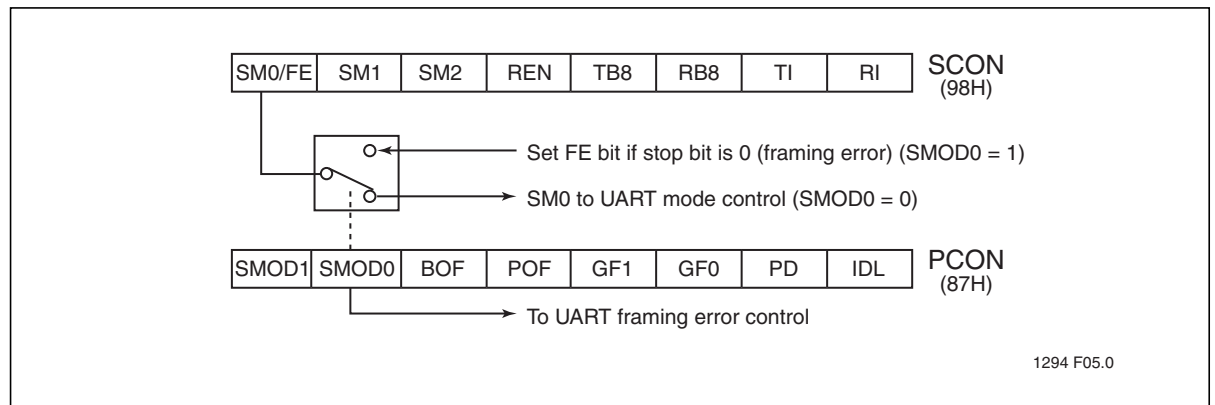
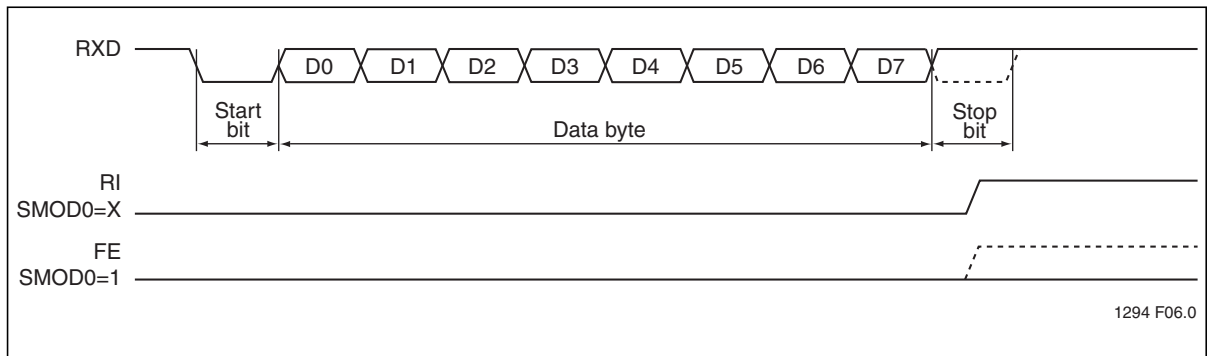
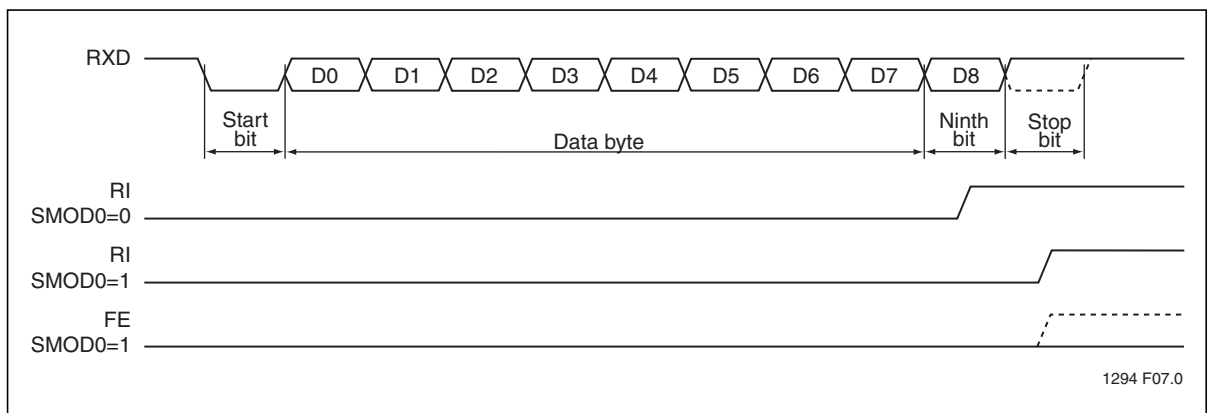

Figure 10:Framing Error Block Diagram
Figure 11:UART Timings in Mode 1
Figure 12:UART Timings in Modes 2 and 3
Framing Error Detection is selected by going to the PCON register and changing SMOD0 = 1 (see Figure 10). If a stop bit is missing, the Framing Error bit (FE) will be set. Software may examine the FE bit after each reception to check for data errors. After the FE bit has been set, it can only be cleared by software. Valid stop bits do not clear FE. When FE is enabled, RI rises on the stop bit, instead of the last data bit (see Figure 11 and Figure 12).